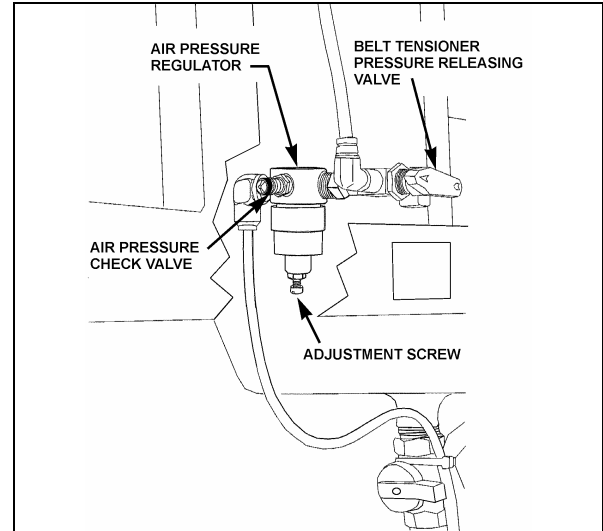

FIGURE 15: BELT TENSIONER VALVE
4. Locate the belt tensioner pressure releasing valve (Fig. 15). Turn pressure releasing valve handle counterclockwise in order to release pressure in belt-tensioner air bellows and loosen belts. Remove the belts.